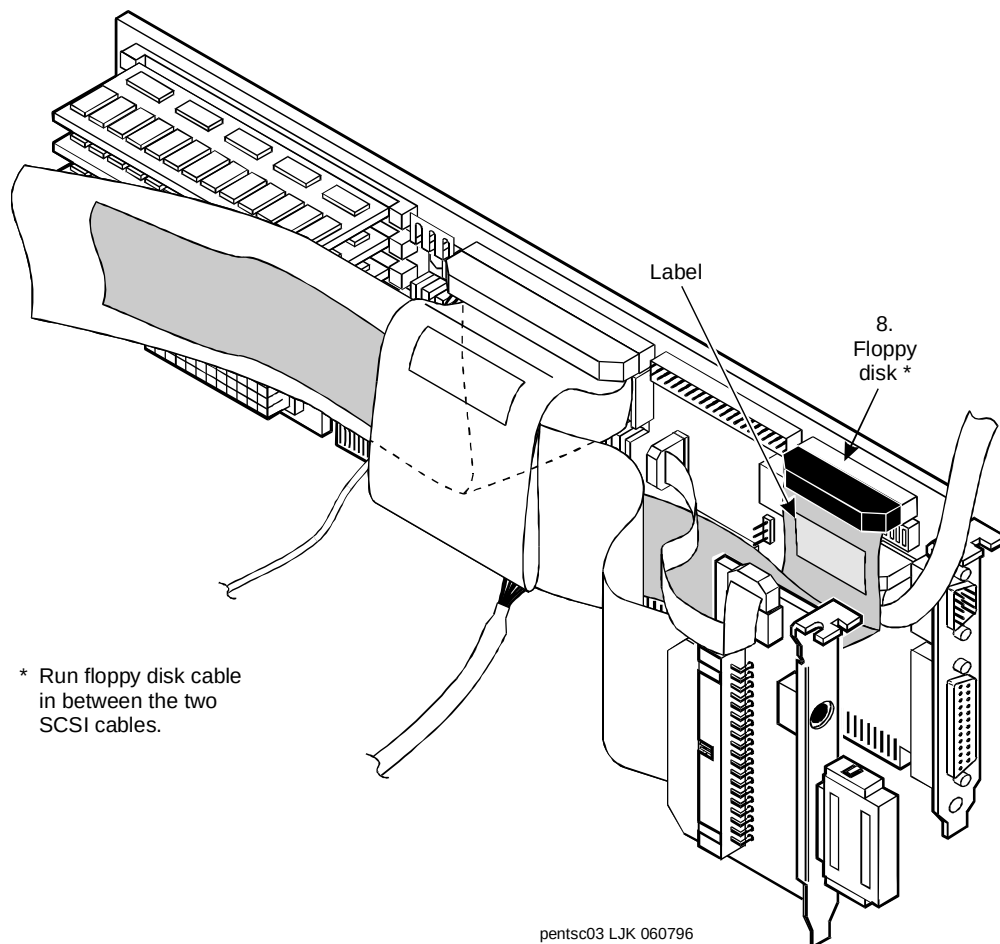

Figure 5-71. Attaching Cables to the P5 120 MHz CPU Circuit Card - Part 3
16. Attach the diskette cable to the floppy cable pins on the P5 120 MHz CPU circuit card (Figure 5-71).
The floppy cable has a label that contains the following message (Figure 5-71):
17. Dress this cable through the SCSI cable and beneath the external SCSI connector circuit card (Figure 5-71).